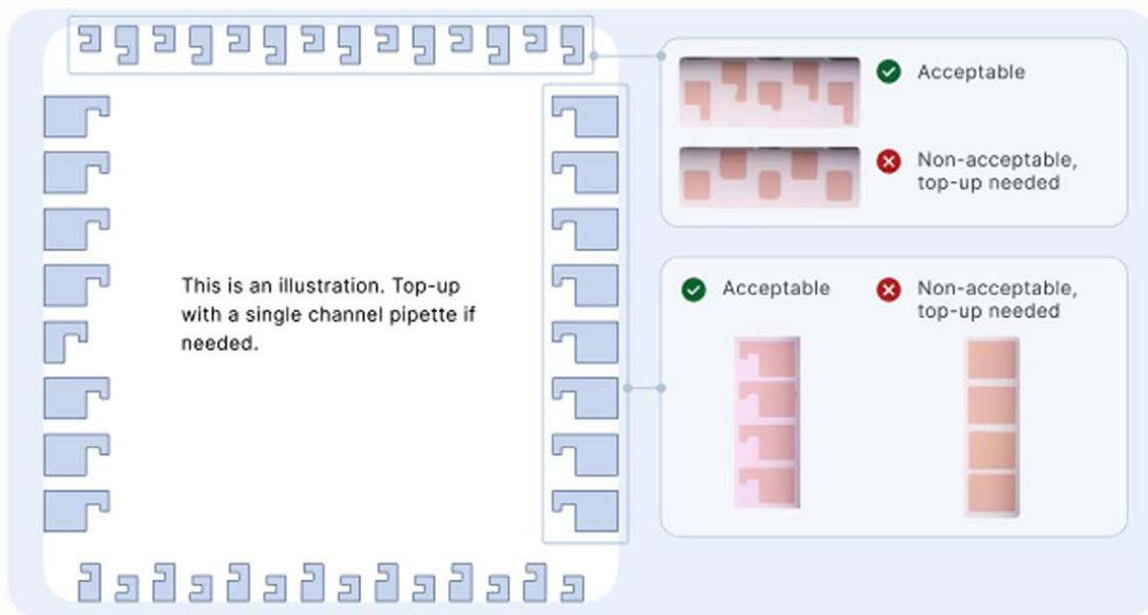

Figure 28: Check the reservoirs have formed correctly on the cartridge
3. Inspect the reservoirs have formed correctly in the cartridge as shown on the screen. If so, Press the [Next] button (Figure 28).